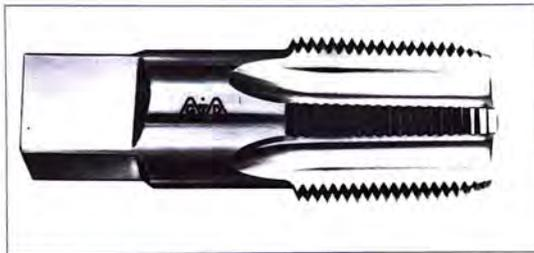
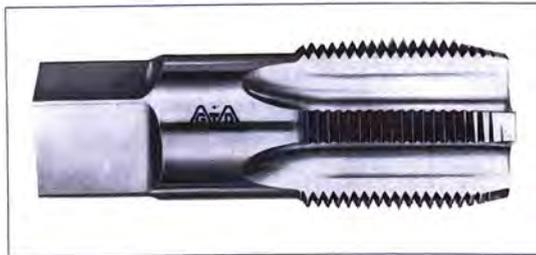

FIGURE 13-13 A Standard Taper Pipe Tap (for NPT threads)
FIGURE 13-14 A Straight Pipe Tap (for NPS threads)
Pipe Taps. Three common forms of pipe taps are used to cut American National Form Pipe Threads. These threads include (1) standard taper pipe threads, (2) straight pipe threads, and (3) dryseal pipe threads. The processes of producing pipe threads are similar to processes used for tapping any other American National Form threads. The *taper pipe tap* forms NPT (National Pipe Taper) threads (Figure 13-13). The *straight pipe tap* cuts NPS (National Pipe Straight) threads (Figure 13-14). The *dryseal pipe tap* produces American National standard dryseal pipe threads.